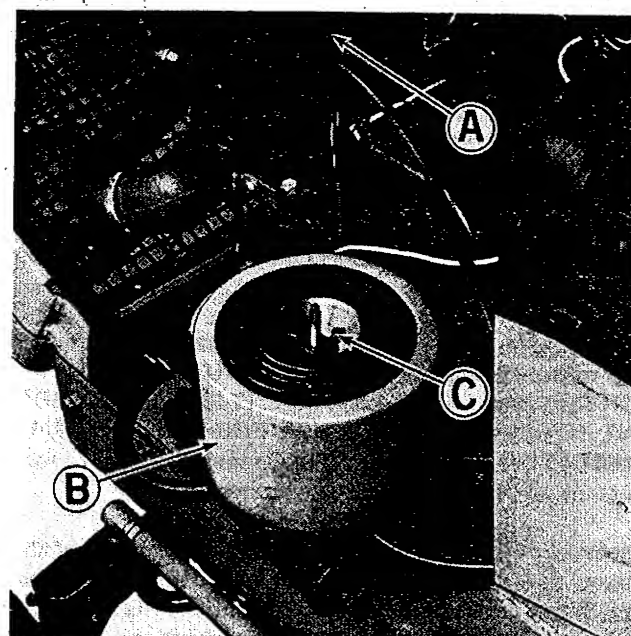

Figure 21. Air cleaner with cover removed on left side of engine.
See figure 21. All grass and chaff should be removed from the engine fins (A). **CAUTION: THE ENGINE FINS ARE VERY HOT AFTER THE ENGINE HAS BEEN OPERATED. DO NOT TOUCH THEM UNTIL THE ENGINE HAS BEEN ALLOWED TO COOL. NEVER SPRAY WATER ON A HOT ENGINE.**
2. See figure 21. Remove the foam precleaner (B) and wash it in liquid detergent and water and squeeze dry.
4. Install the foam precleaner as shown in figure 21.
CLEAN OR REPLACE AIR FILTER ELEMENT: The engine air cleaner is made up of two types of filters. The foam filter (Figure 21, item B) and a dry filtering element. The foam element should be cleaned and oiled every 25 hours as explained under the Every 25 Hour Maintenance Services. Once a year or every 100 hours, whichever occurs first, the paper element should be removed and cleaned or
2. See figure 21.. Remove the foam element (B) and clean and oil it as described in the Every 25 Hour Maintenance Service.
3. Remove wing nut (C) and remove the paper element from the air cleaner.
5. See figure 21. Replace the paper element and wing nut (C) and tighten it securely.
6. Install the foam element (B) over the paper element as shown in figure 21.